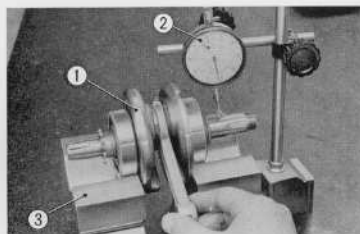

Fig. 3.82 Measuring crankshaft alignment
1. Support the crankshaft ① on V blocks ③ at both bearings and measure the amount of runout. (Fig. 3.82)